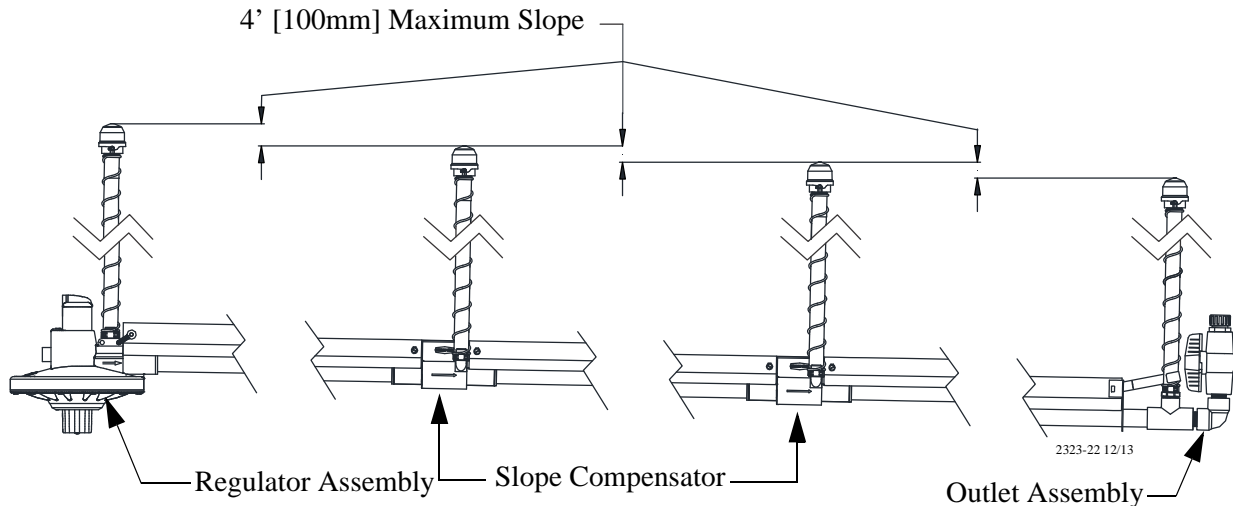

Figure 14. Slope Compensator Assembly Installation
- The maximum amount of drop between the inlet assembly and the slope compensator, or between two slope compensators, or between the slope compensator and the outlet assembly is 4 inches [100 mm]. See **Figure 14**.